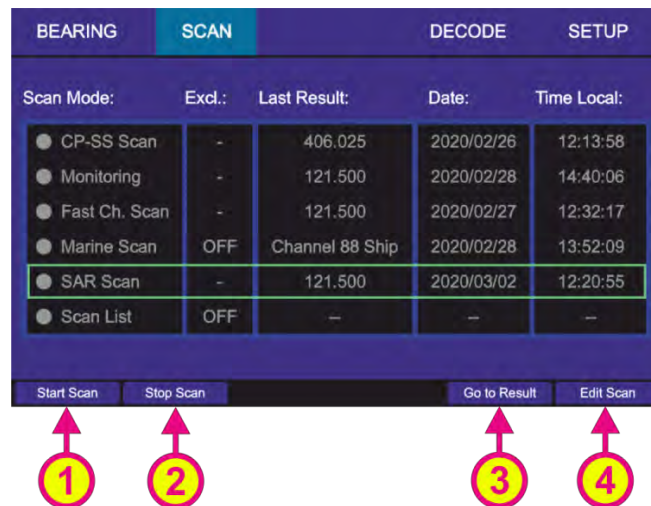

Fig. 49 Selecting SAR scan
- To start the "SAR scan" mode select the corresponding line on the "Scan" page and press "OK" or the hotkey "Start Scan" (s. Fig. 49, position 1).
- Pressing the hotkey “Stop Scan” (s. Fig. 49, position 2) will terminate the current scan mode and change to the bearing of the frequency, that was set before the scan mode has been activated.
- Pressing the hotkey “Go to Result” (s. Fig. 49, position 3) during the scan mode is currently running, will terminate the scan mode, adopt the frequency which was found in this scan last time and change to the “Bearing” page. Pressing the hotkey “Go to Result” if the scan mode is not activated, will lead to the “Bearing” page adopting the last result as the bearing frequency. This hotkey appears only, if there is a result for this scan.
- Pressing the hotkey “Edit Scan” (s. Fig. 49, position 4) opens the dialog for changing the SAR scan settings (s. Fig. 51).